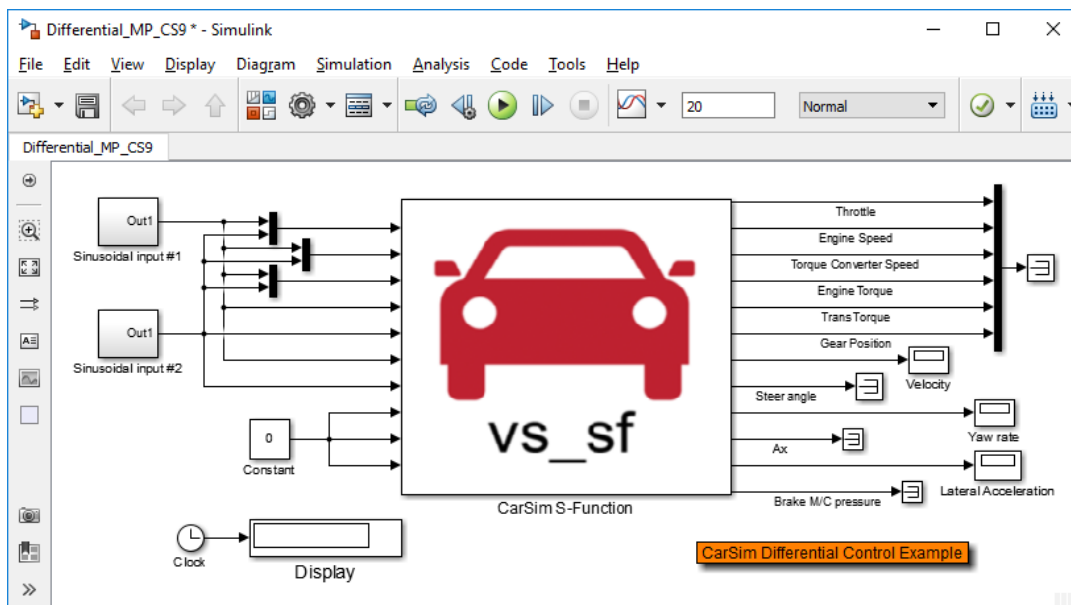

Figure 20. Simulink model with multiple Import and Export ports.
The second-generation Simulink S-Function for a VehicleSim product supports Simulink models with multiple Import and Export ports. Figure 20 shows such an example, in which the CarSim S-Function has ten Import ports and twelve Export ports for various powertrain components.
- ① Data links for **I/O Channels: Imports** datasets. Each link provides the list of Import variables (Simulink signals) for the indicated port. Each visible link must be active; otherwise, Simulink will generate an error.
- ② **Import** drop-down control. Use the drop-down list to specify how many ports will be specified (0 to 20). A corresponding number of data links are shown ① based on this setting. This setting must match the Simulink model file (e.g., Figure 20).
- ③ **Export** drop-down control. Use the drop-down list to specify how many ports will be specified (0 to 20). A corresponding number of data links are shown ④ based on this setting. This setting must match the Simulink model file (e.g., Figure 20).
- ④ Data links for **I/O Channels: Exports** datasets. Each link provides the list of Export variables (Simulink signals) for the indicated port. Each visible link must be active; otherwise, Simulink will generate an error.
- ⑤ Checkbox and field for advanced users to provide miscellaneous information.
- ⑥ Miscellaneous link for advanced users to provide more data.